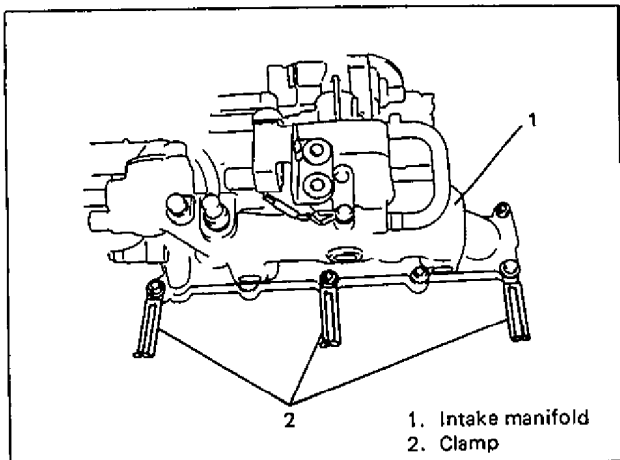

Fig. 6A-25 Clamps
- Install clamps as shown in Fig. 6A-25, and tighten bolts and nuts to specification.